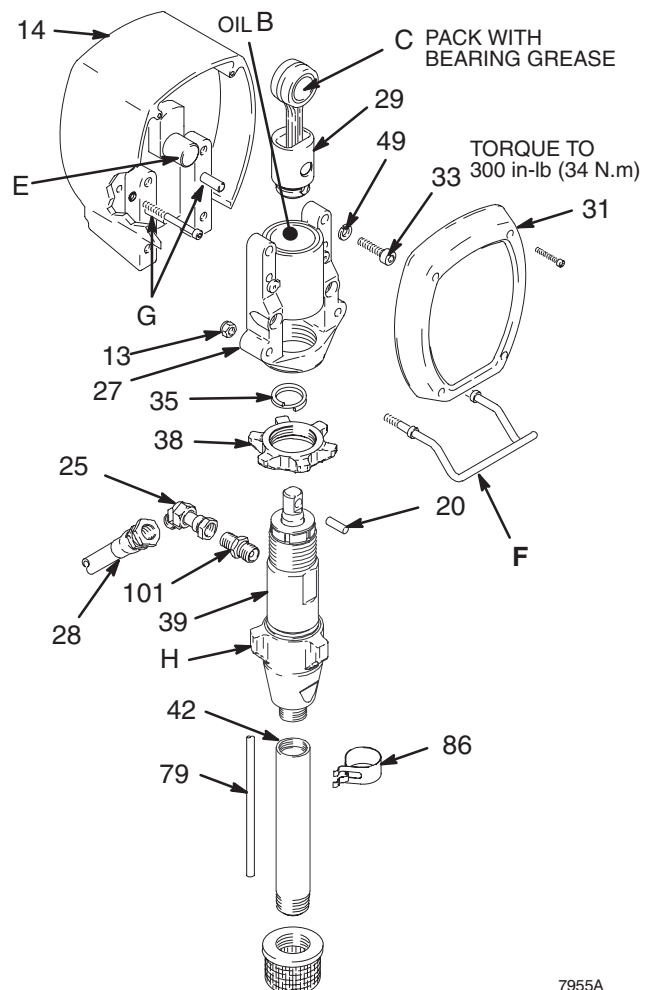

Fig. 18
**NOTE:** Read **General Repair Information** on page 14 before doing this procedure. See Fig. 18.
**NOTE:** Stop sprayer at bottom of its stroke to get crank (E) in its lowest position. To lower crank manually, carefully rotate blades of fan with a screwdriver.
2. Remove front cover (31). Unclip drain hose (79) from pump. Hold a wrench on pump intake valve (H) and unscrew pump suction tube (42). Disconnect pump hose (28).
3. Push up retaining spring (35). Push pin (20) out rear.
4. Loosen locknut (38). Unscrew displacement pump (39).
5. Remove four screws (33) and lockwashers (49).
6. Lightly tap lower rear of bearing housing (27) with a plastic mallet to loosen it from drive housing (14). Pull bearing housing and connecting rod assembly (29) straight off drive housing.
7. Remove pail bracket assembly (F) and install with locknuts (13) on new bearing housing.
8. Inspect crank (E) for excessive wear and replace parts as needed. Evenly lubricate inside of bronze bearing (B) with high quality motor oil. Liberally pack roller bearing (C) with bearing grease.
9. Assemble connecting rod (29) and bearing housing (27).
12. Install screws (33) and lockwashers (49). Tighten screws evenly to 300 in-lb (34 N.m).
14. Install remaining parts. See Fig. 18.